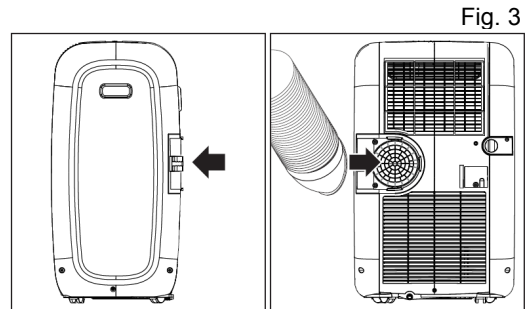

Fig. 3
3. Fix one end of the hose connectors by pressing the clip onto the rear outlet of the unit. Slide the connector into each slot. (Fig. 3)